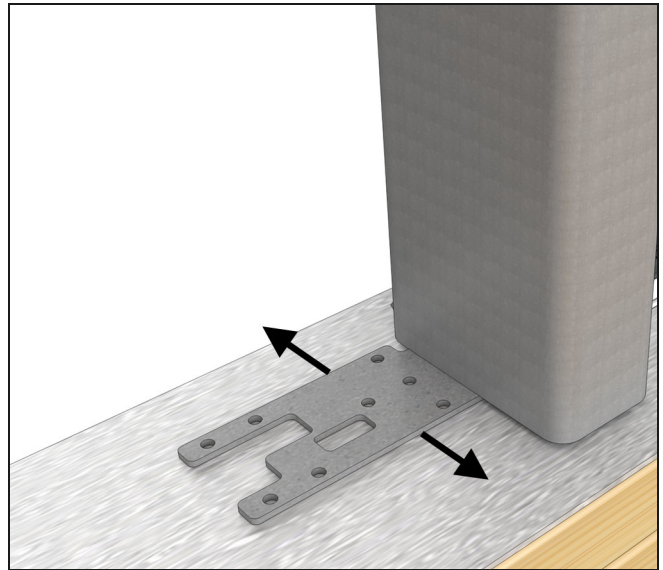
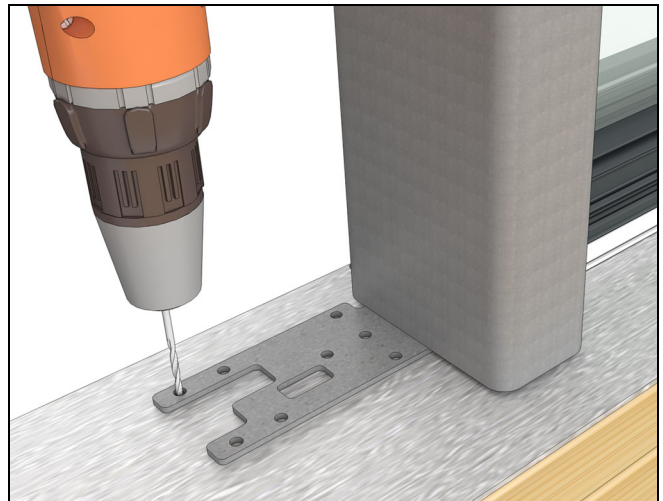
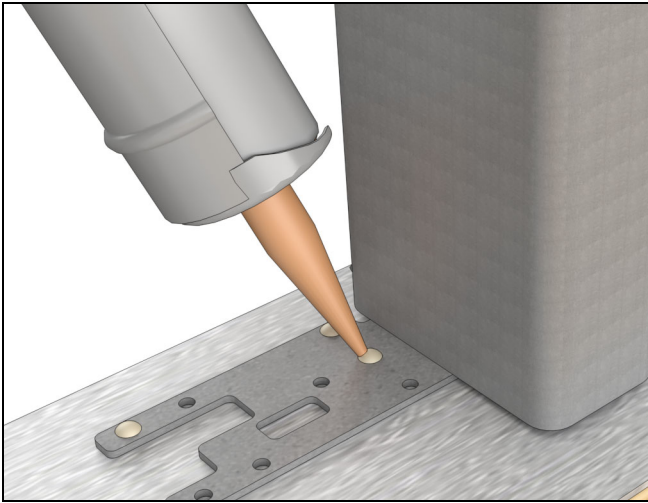
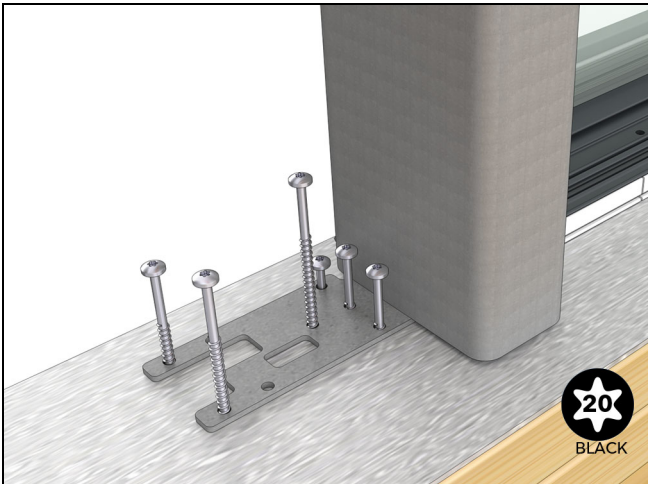

Figure 82
Figure 83
Figure 84
Figure 85
9. Adjust the bracket so it is square in the opening and positioned about 1/4" from the exterior step in the frame. Then fasten it to the sill. Use seven #10-12 3" T20 Torx pan head 2/3 thread screws or similar depending on the sill material. See Figure 82, Figure 83, Figure 84, Figure 85, and Figure 86.